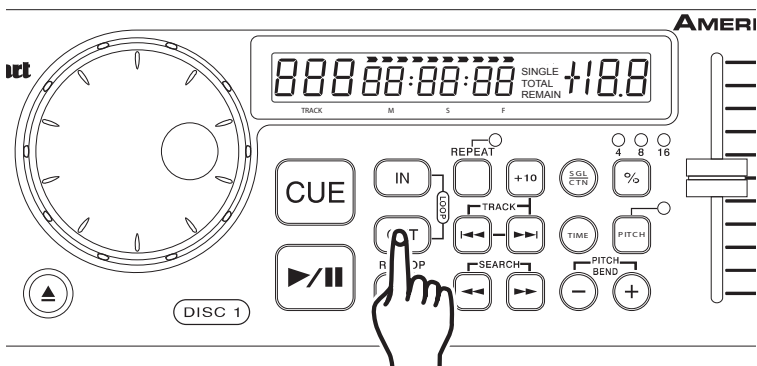

Figure 18
3) Press the LOOP OUT BUTTON (11) to set the ending point for your Loop (Figure 18). The LOOP IN AND LOOP OUT BUTTON LEDs will stay lit indicating a Loop is playing. Press the LOOP OUT BUTTON again to cancel the Loop.
4) Press the RELOOP BUTTON (16) to reactivate the loop. Press the LOOP OUT BUTTON (11) to deactivate the loop.